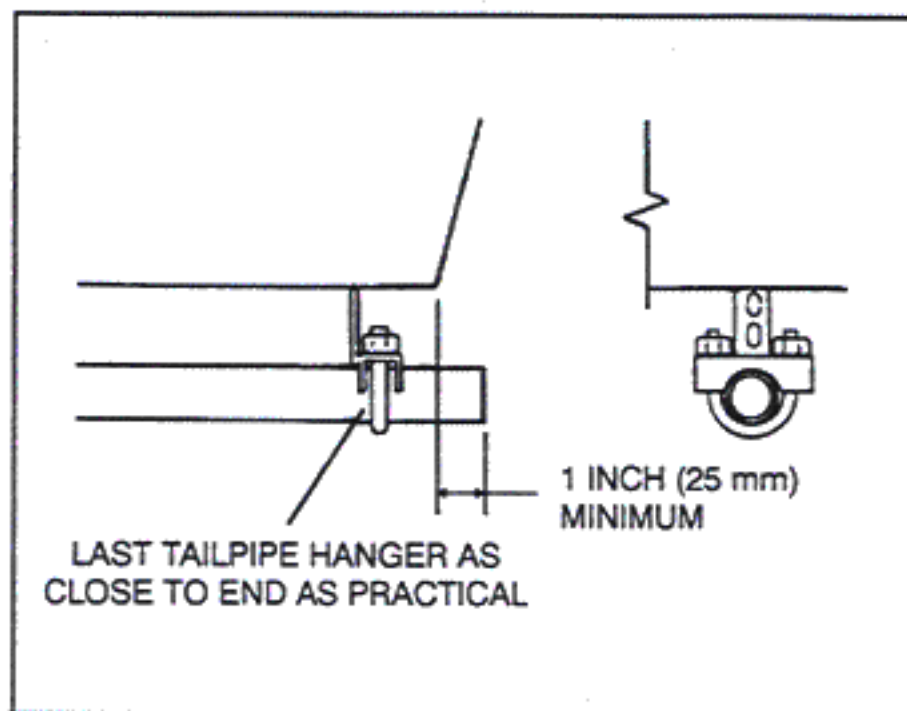

FIGURE 8. TERMINATING THE EXHAUST TAILPIPE
9. Do not terminate the tailpipe underneath the vehicle. Extend it a minimum of 1 inch (25 mm) beyond the perimeter of the vehicle (Figure 8). *Support the end of the tailpipe such that it cannot be pushed in and up under the skirt of the vehicle.*